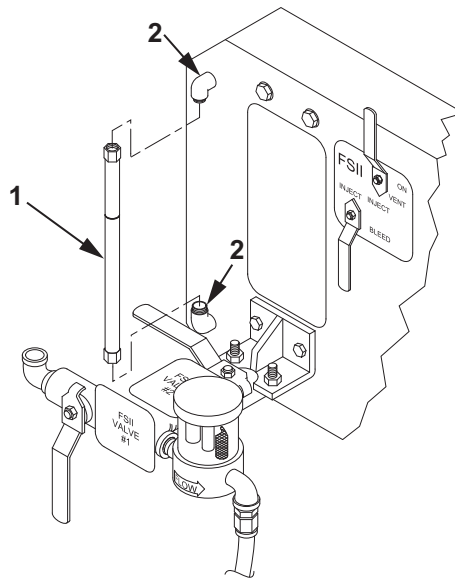

Figure 1. Calibration Gauge.
4. Remove drain pans from under calibration gauge (Figure 1, Item 1) and dispose of contents per local procedures.
1. Using a dry cleaning cloth dampened with solvent cleaning compound, clean the calibration gauge (Figure 1, Item 1) until free of all dirt and debris.
1. Connect calibration gauge (Figure 1, Item 1) to upper and lower elbows (Figure 1, Item 2). Tighten calibration gauge (Figure 1, Item 1) tube fittings.